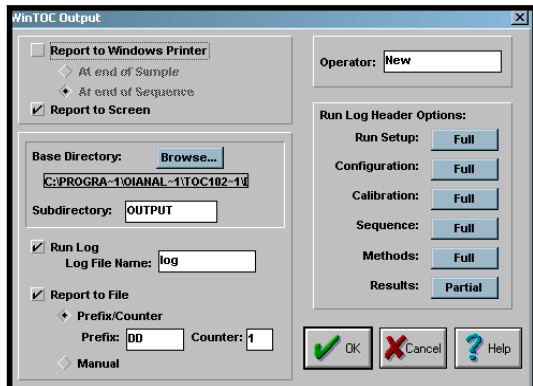

Figure 4.5. WinTOC Output Screen
1. From the Status Screen, go to the **Setup** menu and select **WinTOC Output**. This will access the WinTOC Output Screen (Figure 4.5).